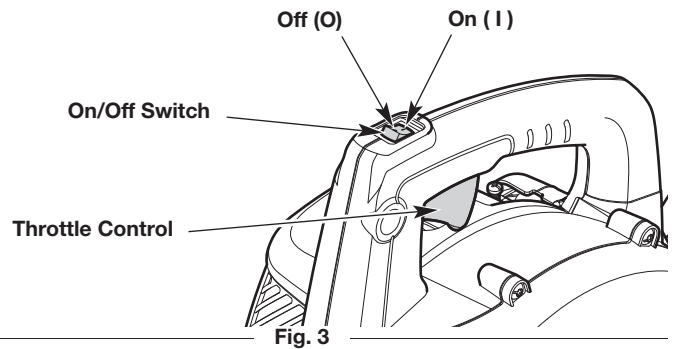
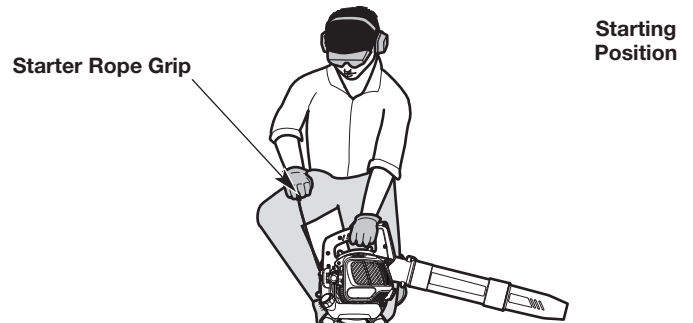

Fig. 3
Fig. 5
WARNING: Avoid accidentally starting the unit. To avoid serious injury, the operator and the unit must be in a stable position when pulling the starter rope (Fig. 5).
NOTE: There is no need to turn the unit on. The On/Off switch is in the ON (1) position at all times (Fig. 3).
5. Crouch in the starting position (Fig. 5).
NOTE: **SQUEEZE** and **HOLD** the throttle control for **ALL** further steps (Fig. 3).
6. Squeeze and hold the throttle control (Fig. 3). Pull the starter rope with a controlled and steady motion **5 times** (Fig. 5).
2. Press and hold the On/Off switch in the **OFF (O)** position until the engine comes to a complete stop (Fig. 3).